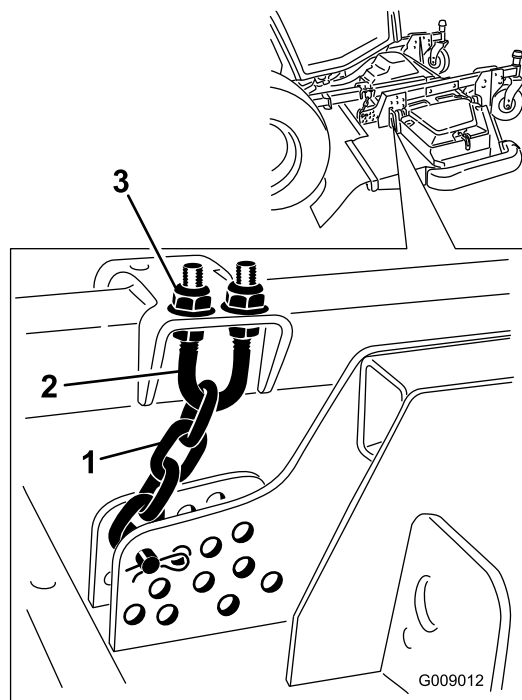

Figure 106
5. Loosen the jam nuts on the top or bottom of the height-of-cut chain U-bolt (Figure 106).